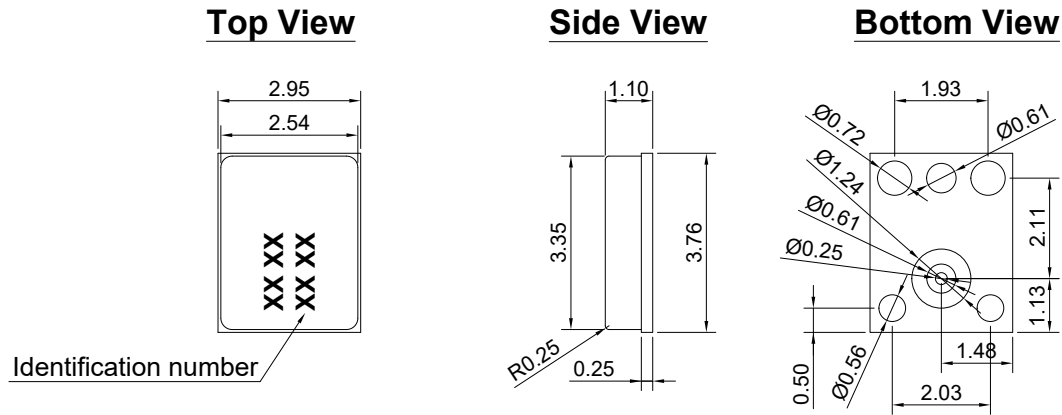

Figure 8. Mechanical Layout of SMO04C-38
- 6.3.1. Layout and Dimension : See Section 9, Figure 8